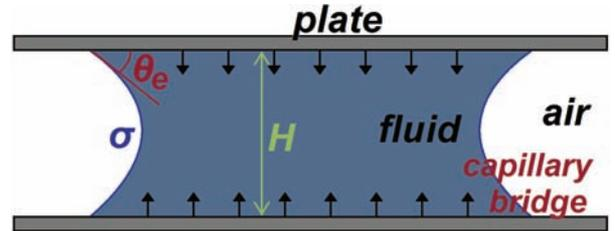

Figure 4.2: An oil drop forms a capillary bridge between two glass plates.
**Capillary Adhesion:** Two wetted surfaces can stick together with great strength if  $\theta_e < \pi/2$ , e.g. Fig. 4.2.